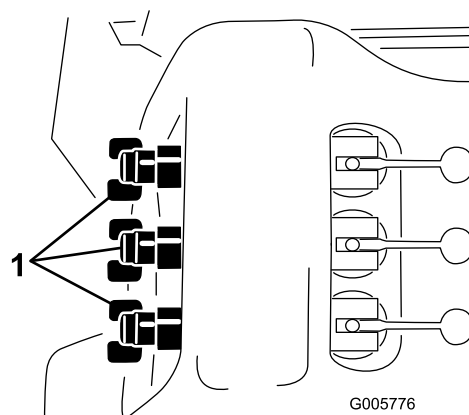

Figure 27
12. Adjust the boom bypass valve (Figure 27) under the boom control valve for the boom you turned off until the pressure reading on the gauge is the same as it was in step 9.